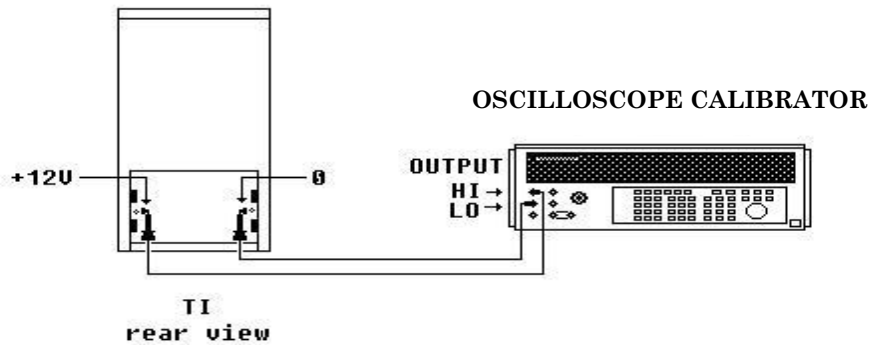

Figure 8. 12 V hookup.
- (1) Before doing the complete adjustments, exit program and use oscilloscope software Refresh Utility Disk, supplied with TI, to refresh Flash ROMS.
- (2) A person should be familiar with the Refresh Utility Disk before starting the Calibration constants restoration.
- (3) Press TI **ON/OFF** key to **OFF** and remove all connections.
- (4) Remove TI battery compartment cover and battery pack.
- (5) Connect **PM 8907/803 AC/DC ADAPTOR** supplied with TI to a 115 Vac power source.
- (6) Insert **PM 8907/803 AC/DC ADAPTOR** low voltage plug into TI right side **POWER ADAPTOR** connector.
- (7) Connect equipment as shown in figure 8 below: